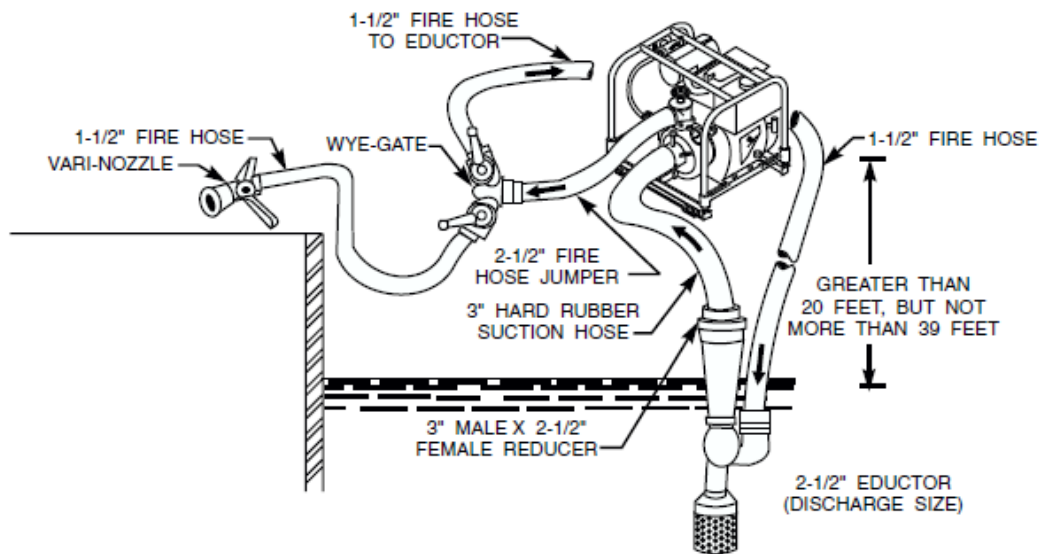

Figure 551-88L-2048_09
(1) Attach 1-1/2 hose to eductor charging port, using 1-1/2 x 2-1/2 adapter if required, (refer to Figure 551-88L-2048_09).